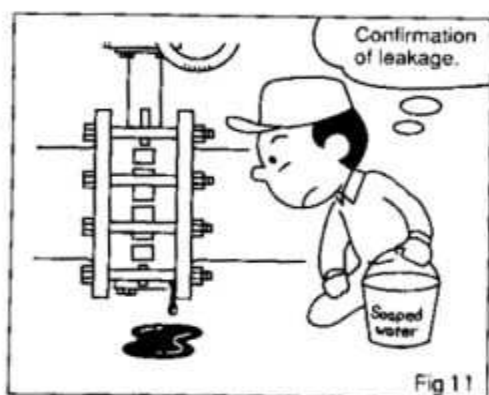

Fig 11
- **Check leakage** : Before operation of the valve, pressure inside the pipings to be raised and to make sure no-leakage between the piping-flanges and the valve. When gas used as fluid, use soaped water for checking leakage. However, pressure inside the pipings not to be raised beyond the valve specifications, and set the disc of the valve in the open position while checking the leakage. (Fig11)